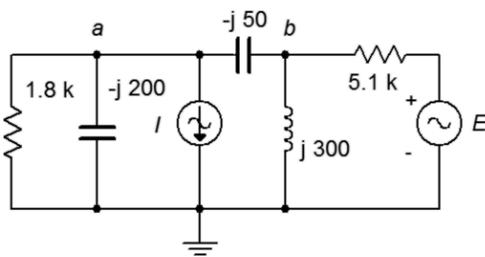

Figure 5.14
27. For the circuit of Figure 5.14, use Superposition to determine the inductor current.  $I = 100E-3\angle 0^\circ$  and  $E = 26\angle 0^\circ$ .
28. For the circuit of Figure 5.14, use Superposition to determine  $v_{ab}$ .  $I = 50E-3\angle 0^\circ$  and  $E = 18\angle 90^\circ$ .